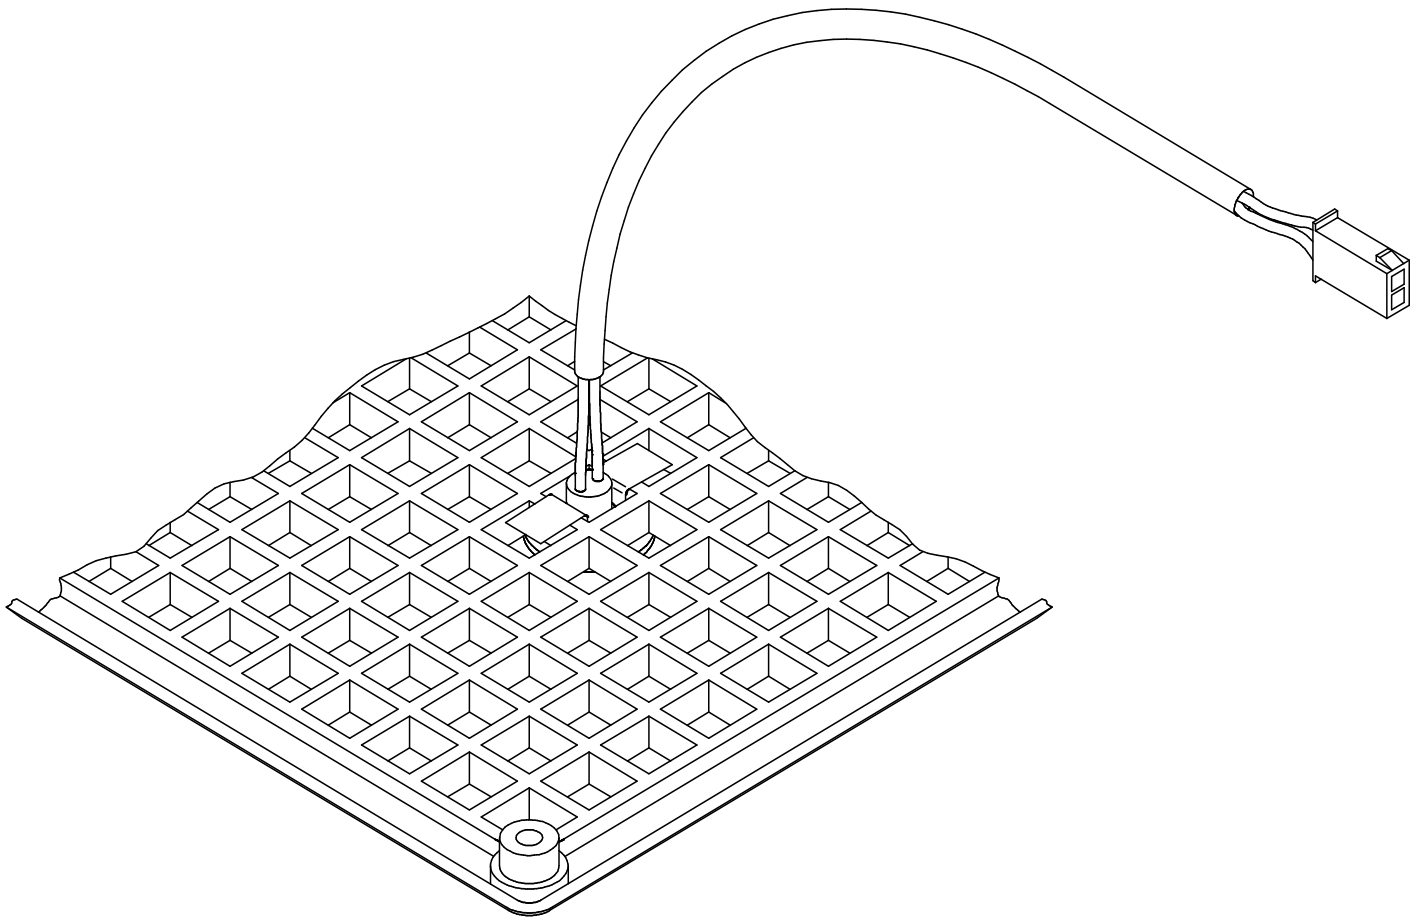

FIGURE 3
1. Remove the inside ceiling assembly shroud or grille. The ducted system grille is attached with four screws (one near each corner). Free delivery system shrouds are attached with two screws (one each end). Ducted system grille is shown in Figure 3.
either side of the jack so as to capture the jack in the ceiling assembly (See Figure 3). Make a small opening in the filter material to allow passage of the wiring before attaching the filter. Connect the plastic plug to the mating receptacle on the end of the upper unit solar wire harness. Reinstall the ceiling grille, taking care that any excess harness wiring is prevented from contacting sharp edges or being pinched between two members. Use wire ties or electrical tape if necessary to insure wire security. Installation onto a free delivery system shroud is similar to the method for grille attachment except that the shroud return air louvers are longer and somewhat narrower. The jack will fit snugly between two louvers and slightly spread them apart. Orient the aluminum tabs so as to capture the jack before bending over the tabs. Again, insure that the jack or wiring will not interfere with any structures upon reassembly of the shroud.